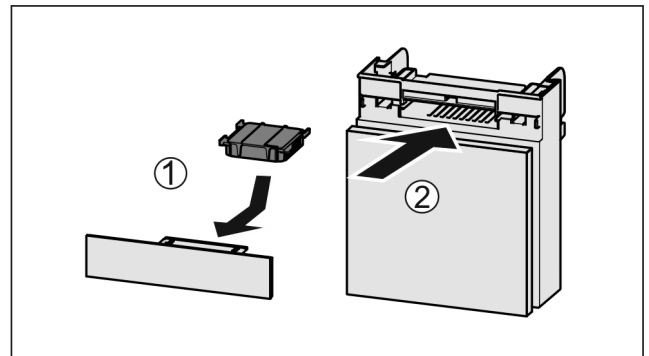

Fig. 154
- ▶ Insert the carbon filter as shown in the diagram Fig. 154 (1).
- ▶ Push the compartment in Fig. 154 (2).